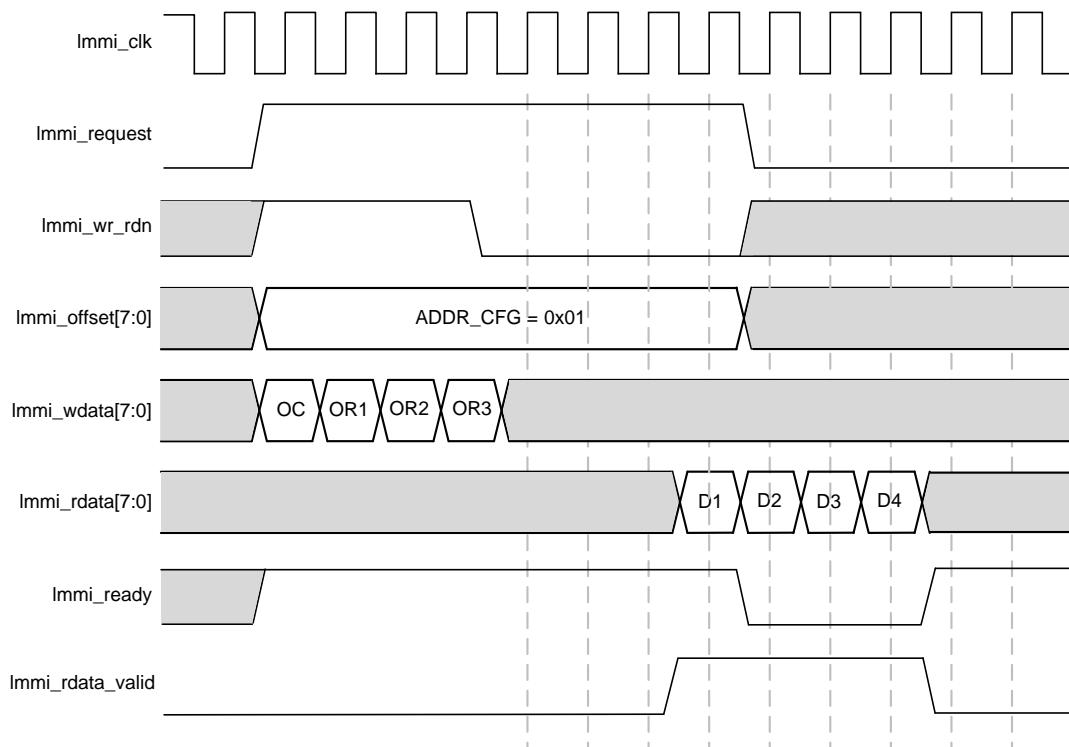
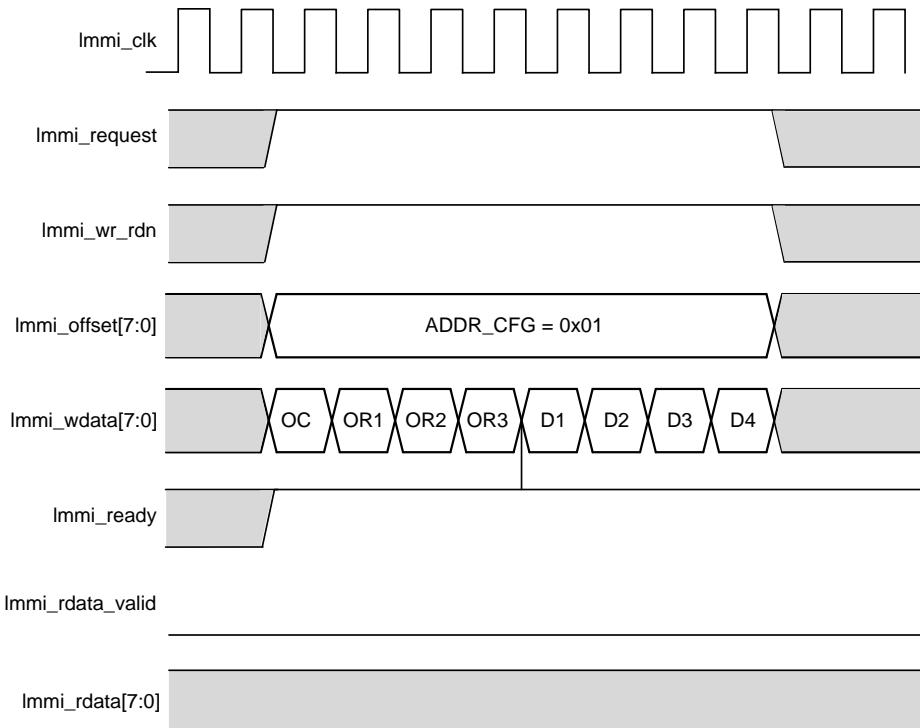
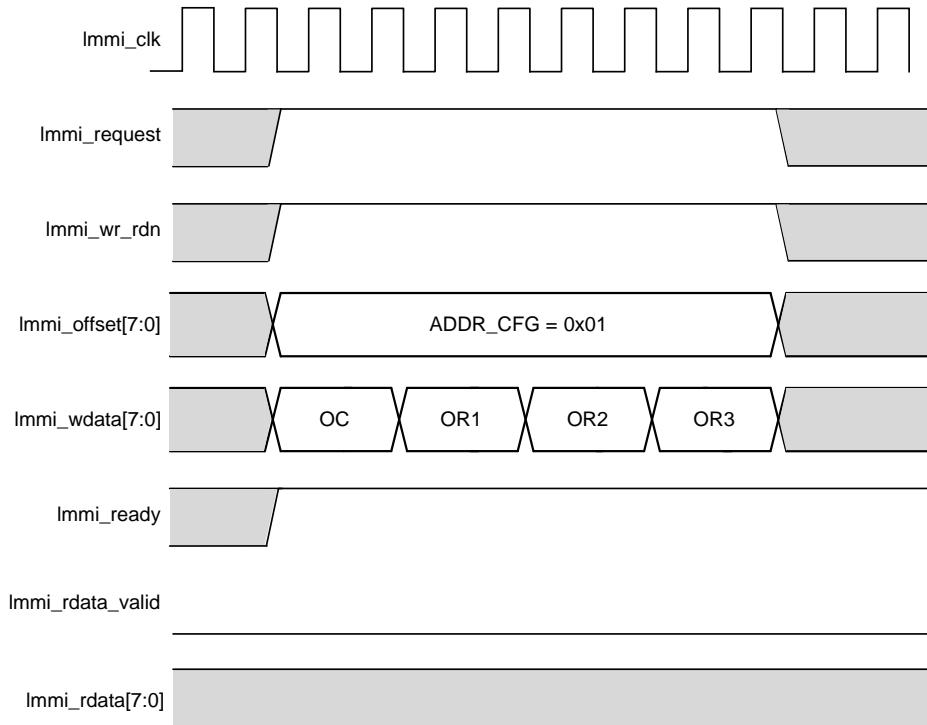

Figure D.4. LMMI Class A Commands Execution
Figure D.5. LMMI Class B Commands Execution
Figure D.6. LMMI Class C Commands Execution
The CONFIG_LMMI primitive has a hardware assigned Immi_offset with ADDR_CFG=0x01. To execute slave configuration command, LMMI host should perform four back-to-back write transfers: 1 byte Opcode (OC), 3 bytes Operands, which are OPERAND1 – OPERAND3 (OR1 – OR3), followed by the optional data bytes. The Class A command, Class B command, and Class C command execution are demonstrated in Figure D.4, Figure D.5, and Figure D.6.